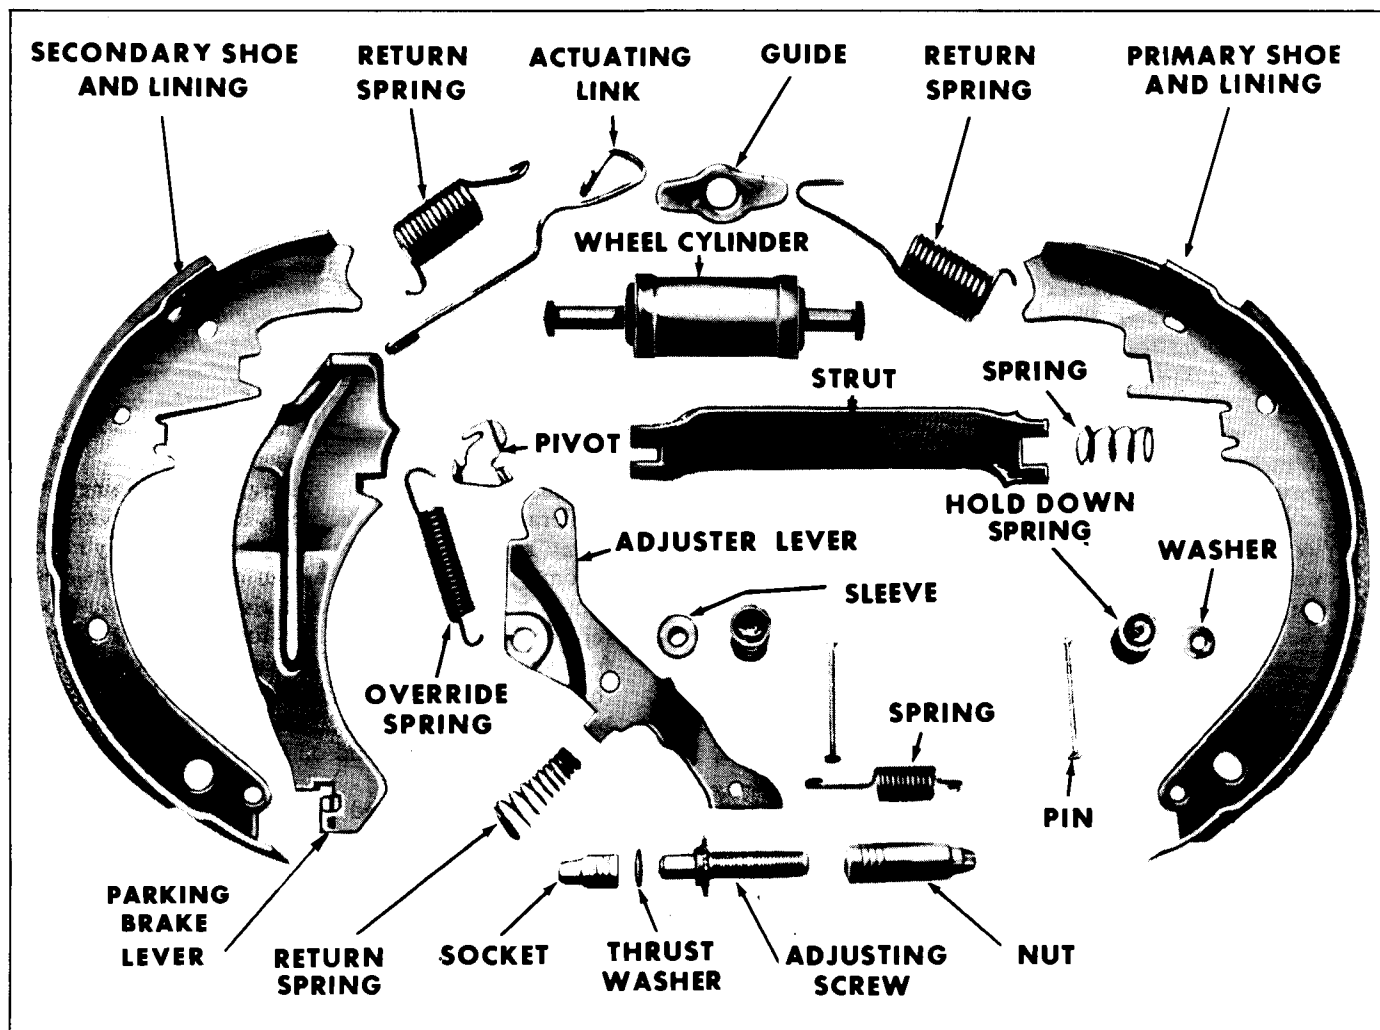

Fig. 5-15 Exploded View - Typical Right Rear Self-Adjusting Brake Assembly
4. Remove the brake shoe hold-down springs, pins and washers, and the adjuster lever and return spring (Fig. 5-15).
8. Remove the actuating links from the wheel cylinder boots only if necessary (Fig. 5-15).
8. Engage the adjuster lever with the override pivot, then position the adjuster lever and override spring assembly on the secondary shoe. Fasten with the hold-down spring assembly (Fig. 5-15).